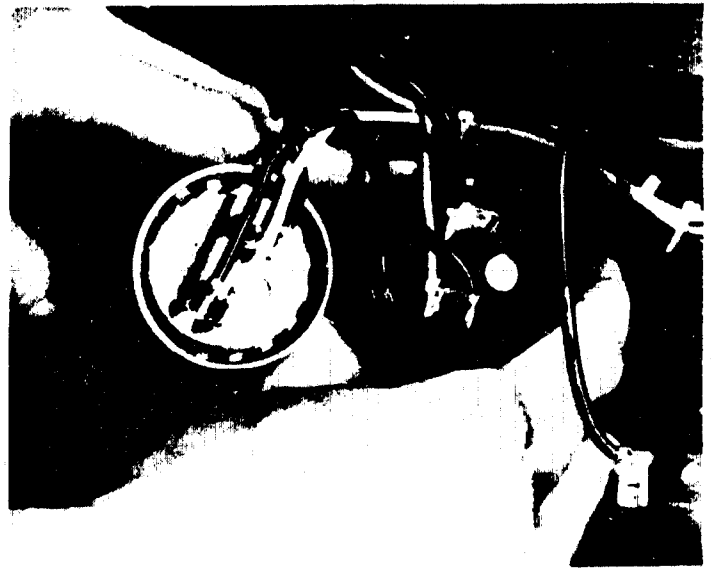

FIGURE 13
4. Connect the black lead from the linear actuator to the vacant terminal of the circuit breaker as shown in Figure 13.